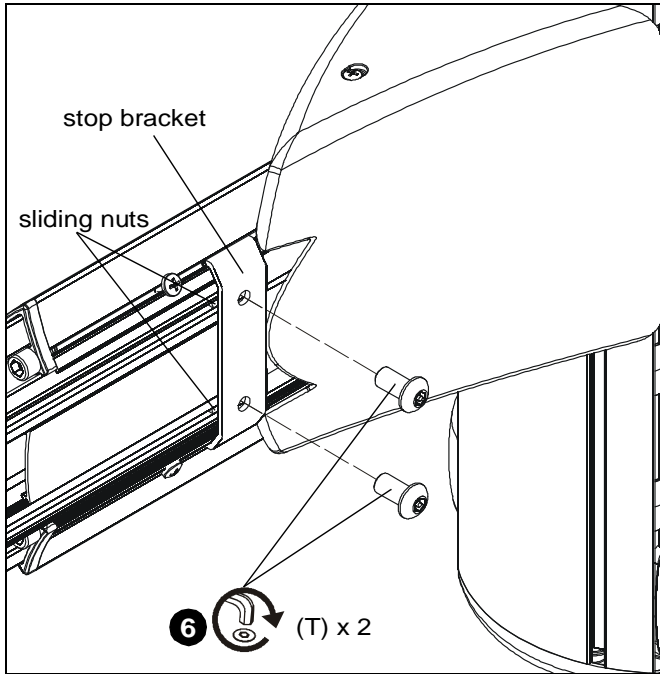

Figure 46
6. Install two 1/4-20 x 1/2" button head security screws (T) through holes in stop bracket and into holes in sliding nuts. (See Figure 46)